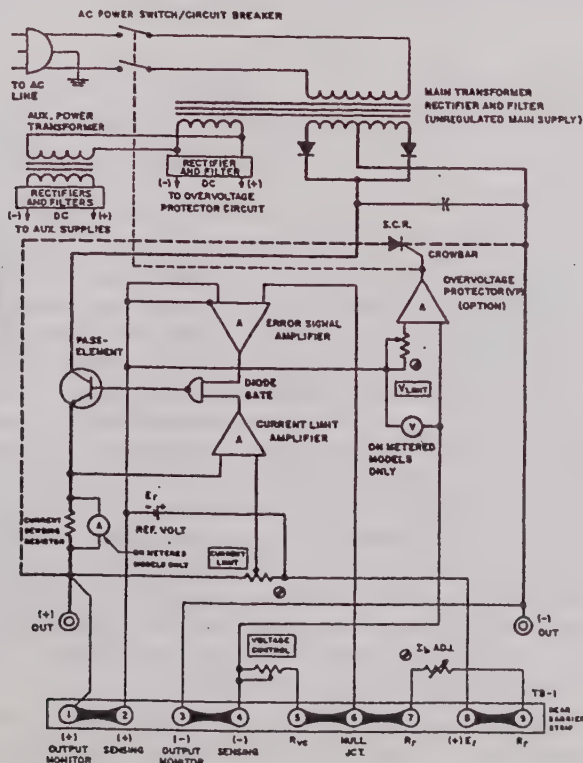

FIG. 4-1 SIMPLIFIED DIAGRAM, JOE HALF-RACK POWER SUPPLY.
(References in CAPITAL LETTERS refer to the nomenclature used in FIG. 4-1)
- 4-1 **SIMPLIFIED DIAGRAM DISCUSSION** (Refer to FIG. 4-1)
- 1) Check rear barrier-strip jumper connections for correct placement of the links and tight seat (Refer to FIG. 4-1).
- 3) Check reference voltage from terminal (2) to (8) on the rear barrier strip. Correct reference potential is 6.2V nominal.